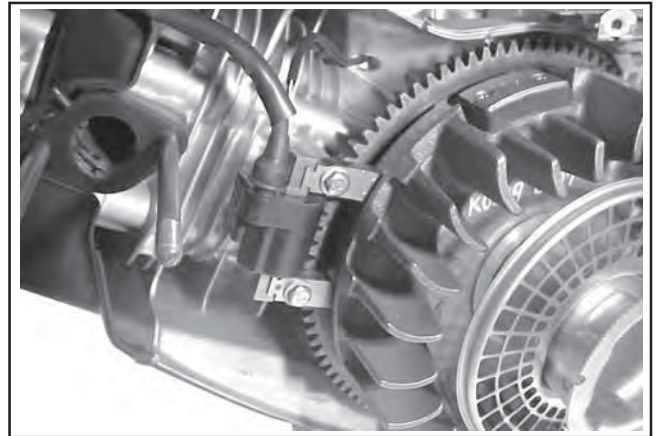

Figure 9-46. Electric Start Flywheel/Module Configuration (some models).
**NOTE:** Some electric start flywheels require the ignition module be taken off first, or loosened, to remove the flywheel from crankshaft. See Figure 9-46. Perform "**Remove Ignition Module**" prior to Step 1 if applicable.